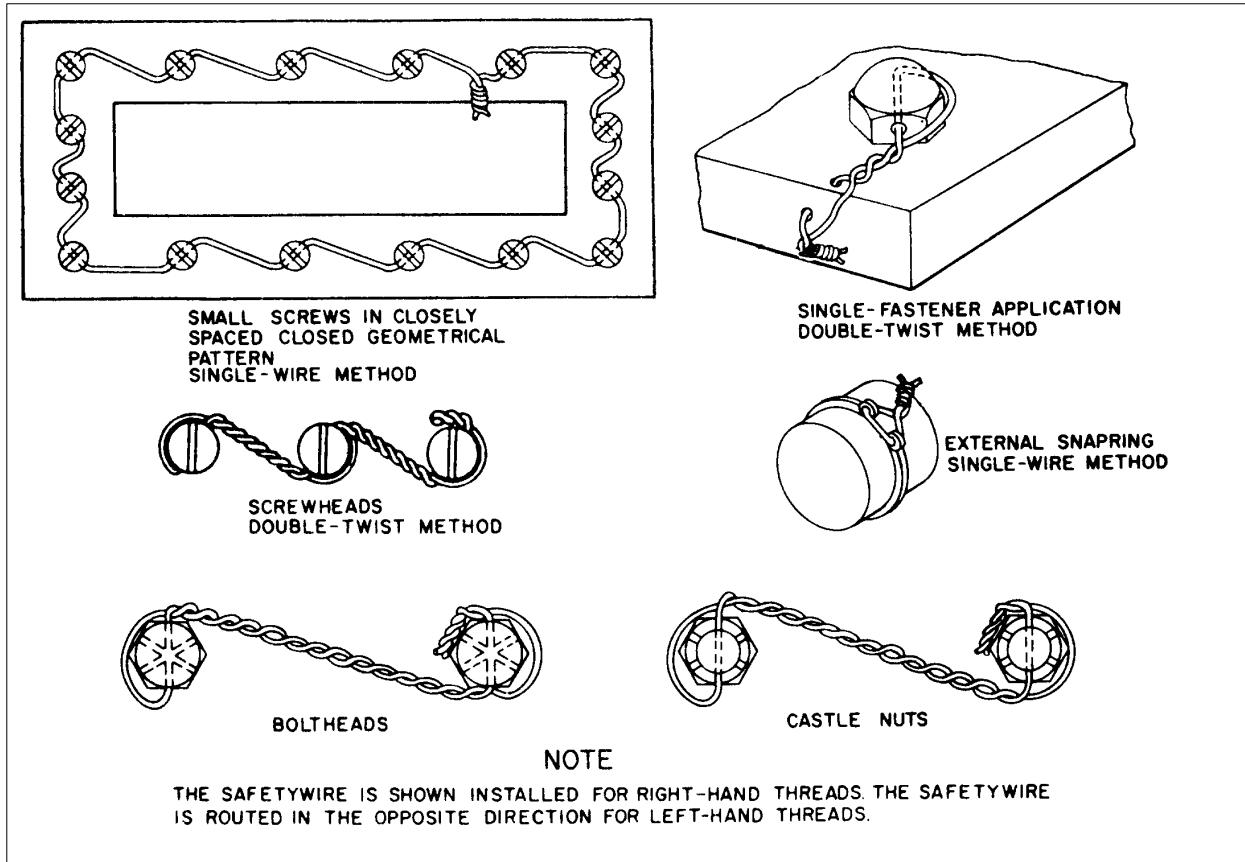

FIGURE 7-3. Securing screws, nuts, bolts, and snaprings.
a. **There are two methods of safety wiring;** the double-twist method that is most commonly used, and the single-wire method used on screws, bolts, and/or nuts in a closely-spaced or closed-geometrical pattern such as a triangle, square, rectangle, or circle. The single-wire method may also be used on parts in electrical systems and in places that are difficult to reach. (See figures 7-3 and 7-3a.)